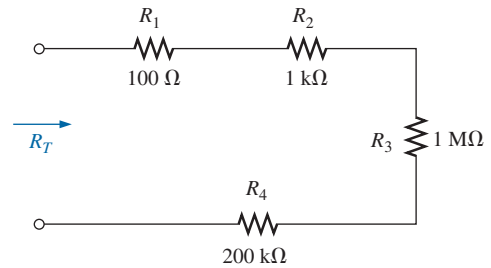

FIG. 5.88
4. For the circuit in Fig. 5.88, composed of standard values: